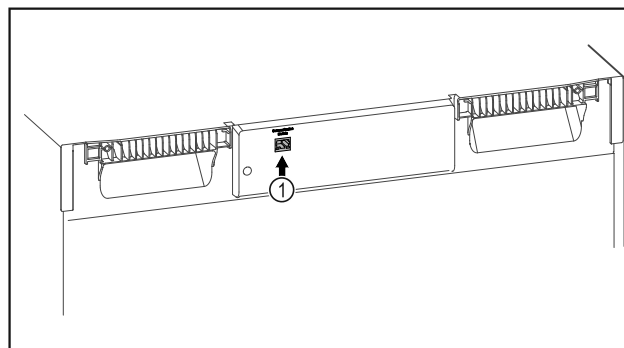

Fig. 124
- ❑ SmartModule Fig. 124 (1) is in use.